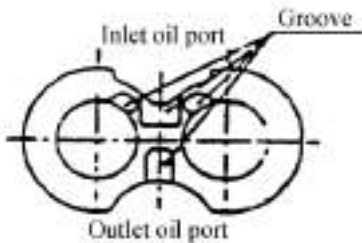

Fig.7-24 Lining plate
- (d) Install the lining plate on the side of the gear, with groove aiming gear point, don't confuse the inlet oil port and the outlet oil port. (Fig.7-24)